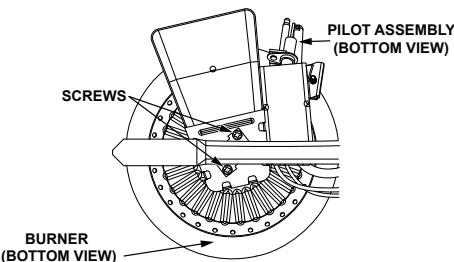

FIGURE 24.
1. Take off the burner by removing the two (2) screws located underneath the burner.
2. Check the burner to see if it is dirty or clogged. The burner may be cleaned with soap and hot water (Figure 24).
2. Remove the burner to access the pilot/thermopile assembly. Remove and keep the screws securing the burner to the manifold (Figure 24).
8. Using the pilot screw removed earlier, attach the new pilot/thermopile assembly. Reattach the burner to the manifold using the screws removed earlier. NOTE: Make sure the burner scoop is oriented to the pilot side of the manifold tube (Figure 24).